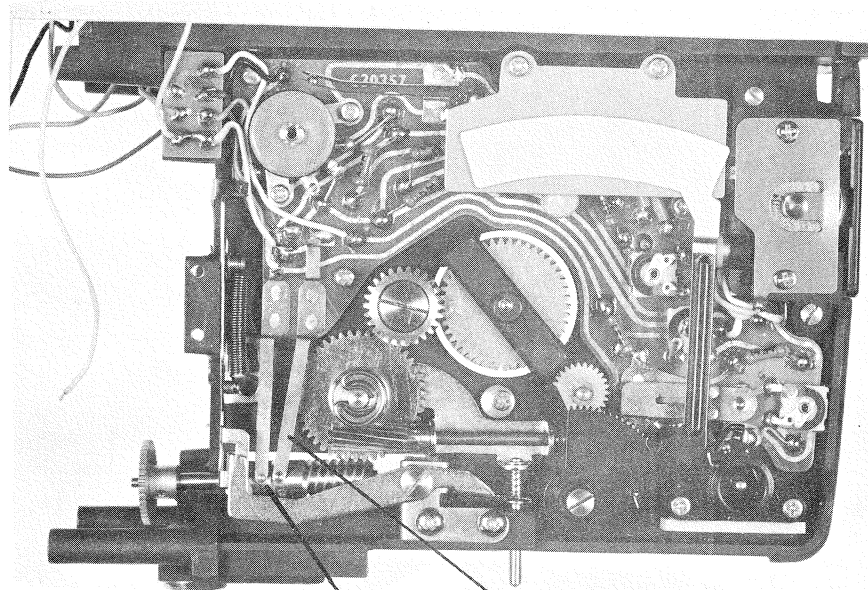

Fig. 45
- 10-1-2. Adjust in such a manner that the insulated cut portion of the shutter contact point (2 in Fig. 45) on the winding intermediate shaft gear will be at a position where it is in contact with the contact plate (1 in Fig. 45).